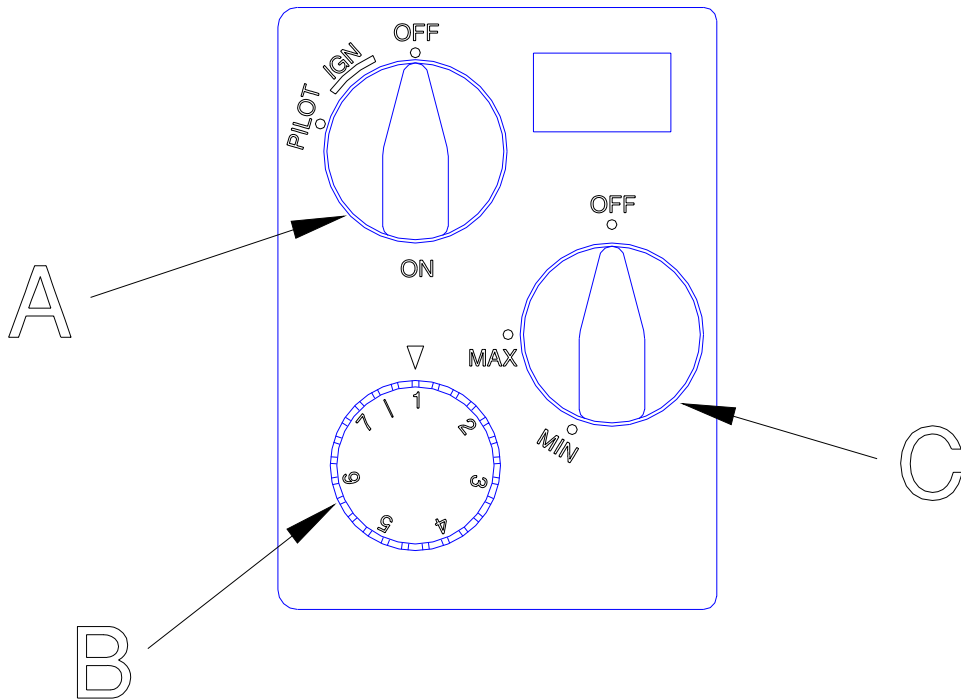

Fig 5: Control Panel.
Refer to Fig 5.
2. Check that the control knob “A”(Fig 5) is in the off position, the thermostat knob “B” is turned to its Highest setting (7) and back burner control “C” should be in the off position.